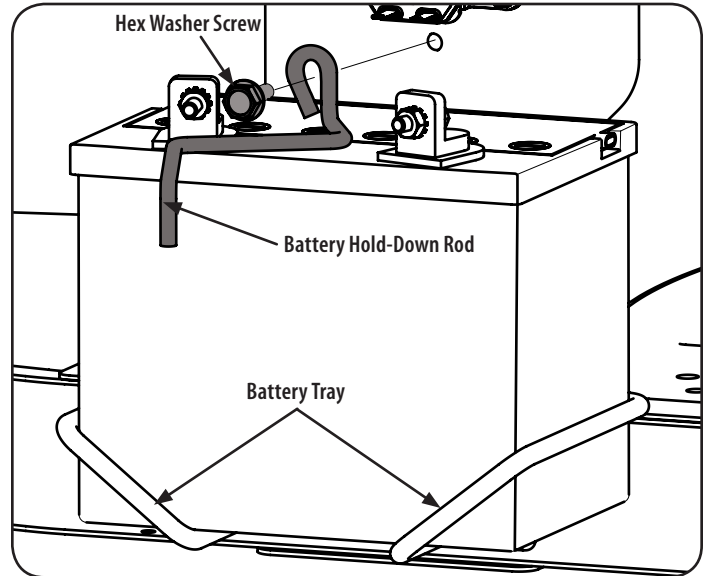

Figure 47
- Remove the hex washer screw securing the battery hold-down rod to the frame. See Figure 47.
- To re-install the battery, place it back in the battery tray and secure in place with the battery hold-down rod and hex washer screw. See Figure 47.